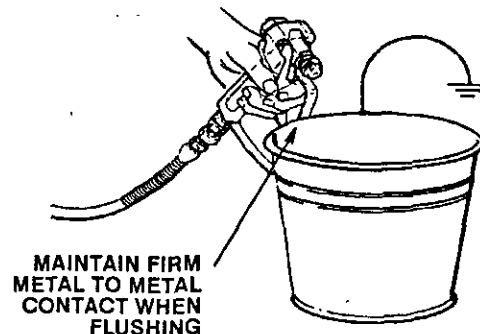

Fig 9-1
7. To prime the pump, hold a metal part of the gun firmly against into a metal waste container. See Fig 9-1. Squeeze the trigger and hold it open, turn the ON/OFF switch to ON, and slowly increase the pressure setting until the sprayer starts. Keep the gun triggered until all air is forced out of the system and the paint flows freely from the gun. Release the trigger and engage the gun safety latch.